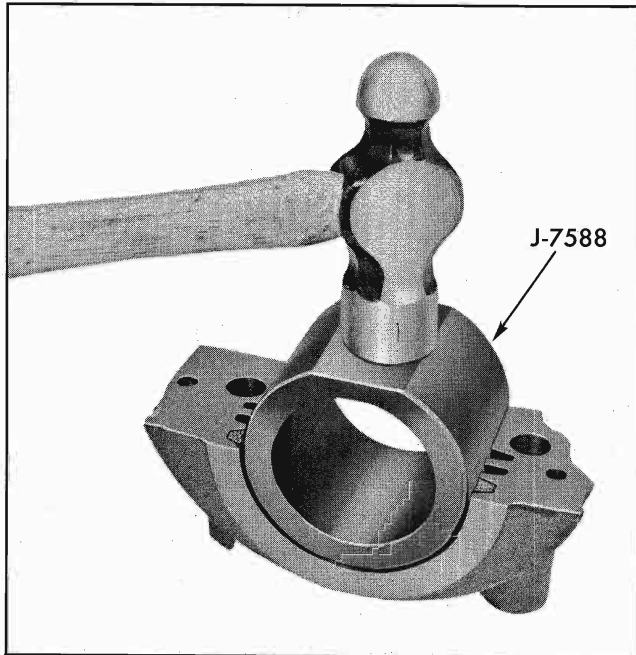

Fig. 6-66 Compressing Upper Seal in Bearing Cap with J-7588
- a. First install seal in cap and compress seal using hammer and seal compressor J-7588 (Fig. 6-66).
2. Install a new seal in rear main bearing cap, using tool J-7588 to pack seal tightly. Be sure to pack seal tightly into groove and trim flush with cap (Fig. 6-66).